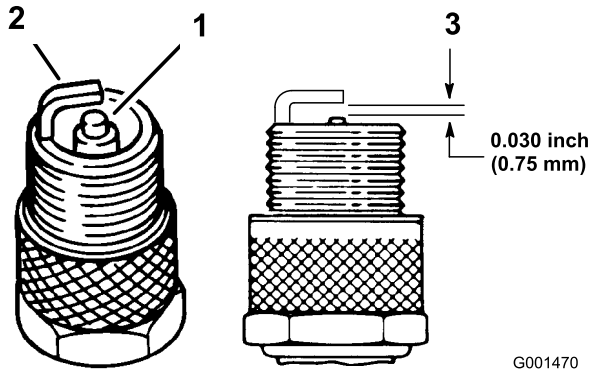

Figure 31
1. Look at the center of the spark plugs (Figure 31). If you see light brown or gray on the insulator, the engine is operating properly. A black coating on the insulator usually means that the air cleaner is dirty.
3. Check the gap between the center and side electrodes (Figure 31). Bend the side electrode (Figure 31) if the gap is not correct.
3. Connect the wires to the spark plugs (Figure 31).